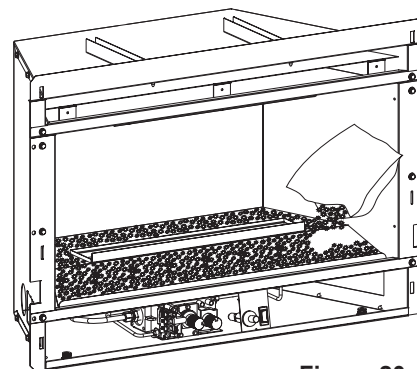

Figure 20
3. To install the Decorative Glass, cut off a corner of the plastic bag and proceed to apply the glass to the rear shelf on the Loft burner (area behind the burner). Apply only enough glass to the Top Cover to cover the black metal surfaces. Do not allow the glass to fall around the burner tube. See Figures 20 to 21. Apply the remaining decorative glass to the front sloped surface of the Top Cover. Start by placing the glass along the front edge of the top cover, then gradually place the glass up the sloped top until completely covered. Do not allow the glass to fall around the burner tube. See Figure 22.